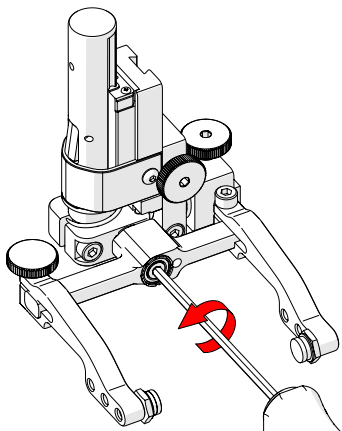

Fig. 142 - Unscrew yoke pivot screw
2. Using the supplied 3 mm hex driver (Fig. 44), unscrew the yoke pivot screw and remove the yoke (Fig. 142).